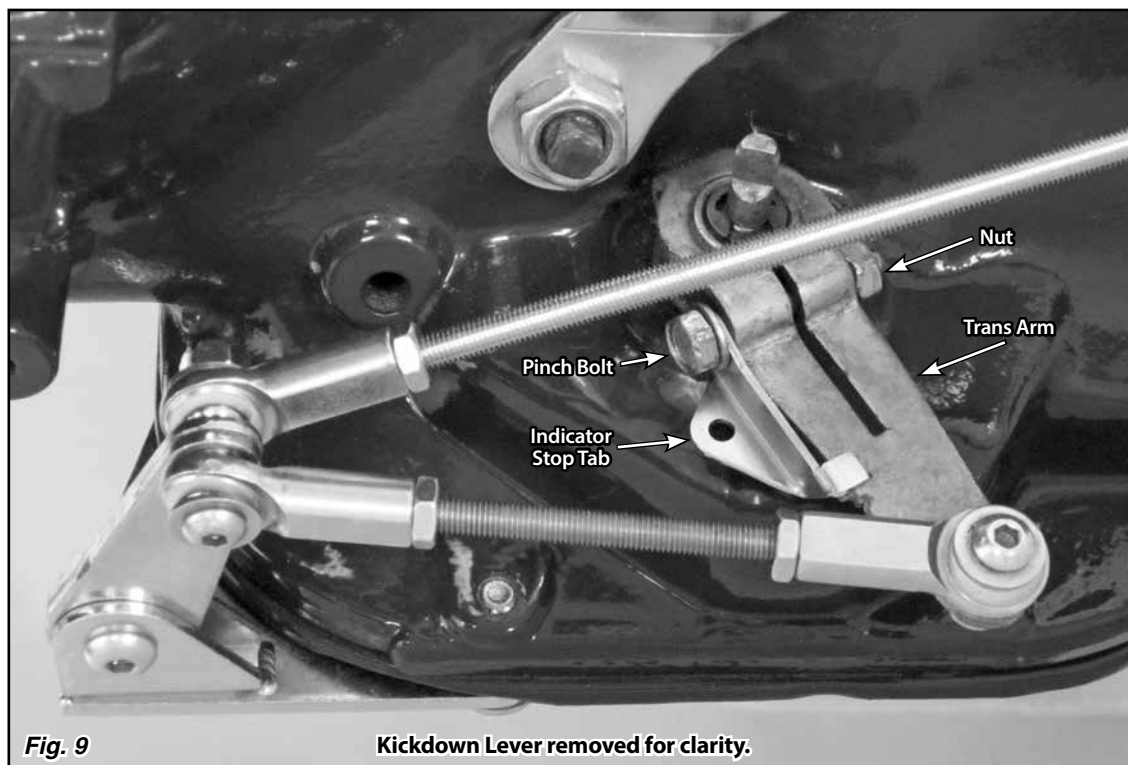

Fig. 9
Step 6: Remove the nut from the pinch bolt on your original trans arm. You may need to remove the pinch bolt also, depending on which direction it was previously installed. Install the indicator stop tab onto the pinch bolt, on the forward side of the trans arm, with the bent tab on top of the trans arm as shown in **Fig. 9**. Reinstall the original nut on the pinch bolt.